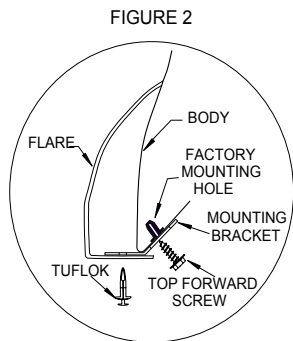

FIGURE 3
- (C) Repeat Step 2A for remaining flares.
- (A) Remove and save 3 screws from inside lip of wheel well. Remove and save 2 outer screws securing mud flap to vehicle. If vehicle has no chrome strips, insert the supplied plastic grommets into holes in wheel well lip. **See Figure 3.**
- (C) Secure flare to fender using the screws removed in step 3A and the screws supplied in the kit. **See Figure 3.** Leave the front most of the top three screws loose, to allow alignment with the bumper piece. **(See Step 4, (K) for tightening.)**
- (A) Hold bumper piece in place on bumper, aligning it with the flare, the top of the bumper, and the inside lip of bumper. **See Figure 3 and 6.**
- (B) Mark four holes using the bumper piece as a guide and remove bumper piece.
- (C) Drill three 1/4" holes in bumper lip for the speed screws. **See Figure 3 and 6.**